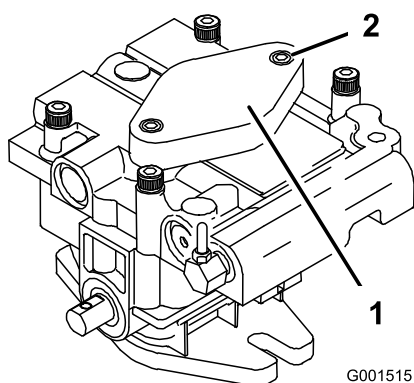

Figure 62
7. To prime the charge pump, loosen the 2 hex socket-head capscrews (Figure 62) 1-1/2 turns only. Make sure that the engine is not running. Lift the charge pump housing upward and wait for a steady flow of oil to flow out from under the housing, then tighten the capscrews.